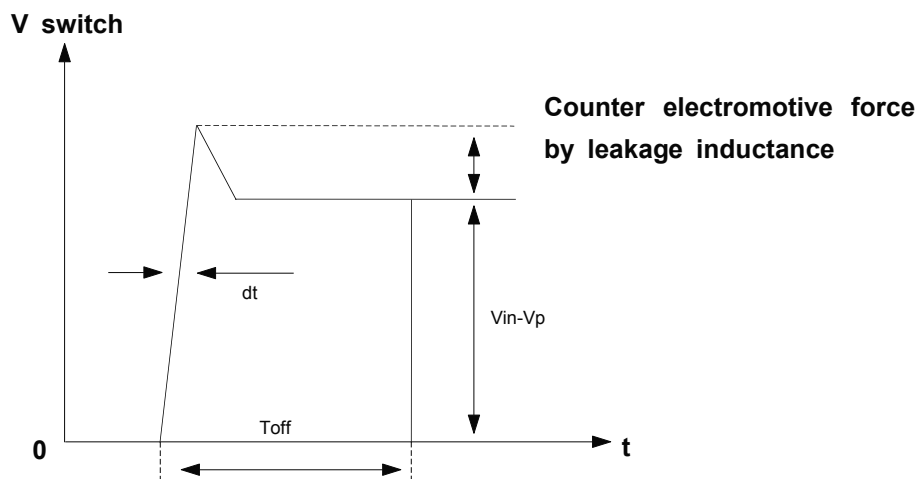

Fig 13-1
- ❶ The conversion of AC power to DC (An electric wave rectification)
- ❷ PC10 : Voltage has smoothing by DC converted.
- ❸ PC2, PC11, PL2 : The use of removing input/ output noise of power terminal.
- ❹ PR10 : When power code is inserted, the restriction resistor of Inrush current.
- ❶ When the switch is off, It prevents switch both terminal to occurrence a higher voltage / Suppressing the occurrence of noise.
- Dt is very short time, in actuality circuit similarly with fig 13-1, occurrence very high voltage on PL2 both terminal. Snubber circuit is damage protection of IC01 through Leakage voltage control by Zener Diode.